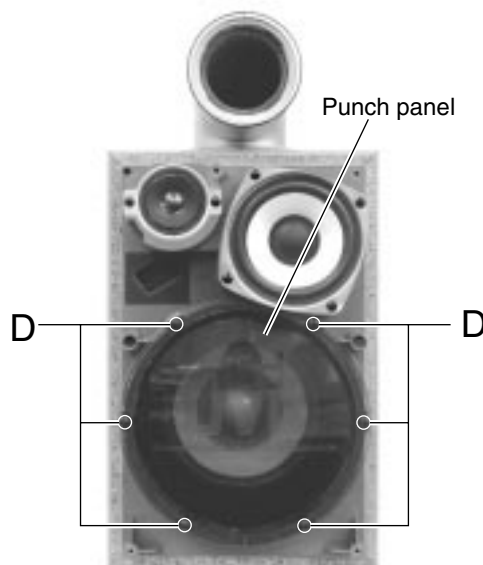

Fig.4
■ Removing the speaker (woofer) (See Fig.4 and 5)